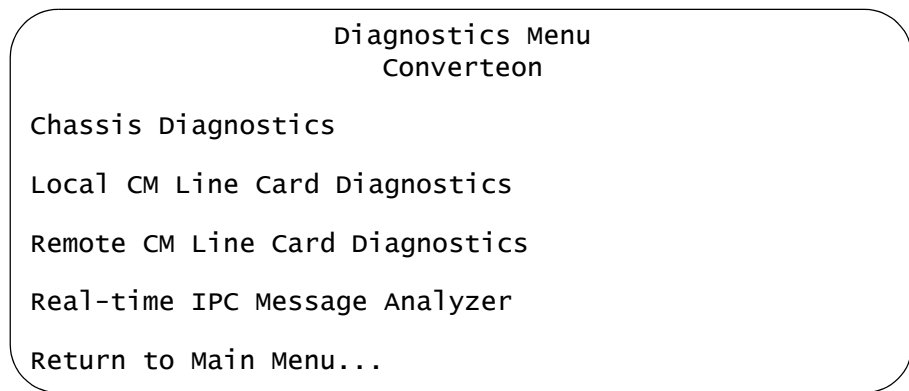

Figure 53. Diagnostics Menu
1. From the Main Menu, select **Diagnostics**. The Diagnostics Menu is shown in Figure 53.